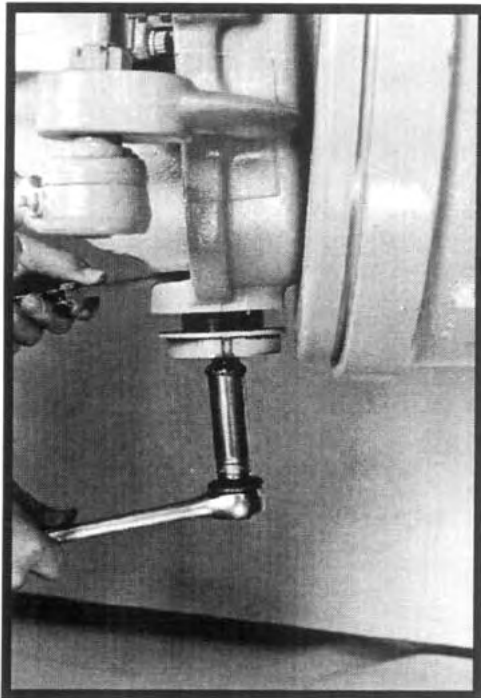

Figure 5
5. Place a stack of feeler gages in the gap between the suspension and spindle yokes in the area of the lower kingpin ball stud. The gages should fit snugly. See Figure 5.